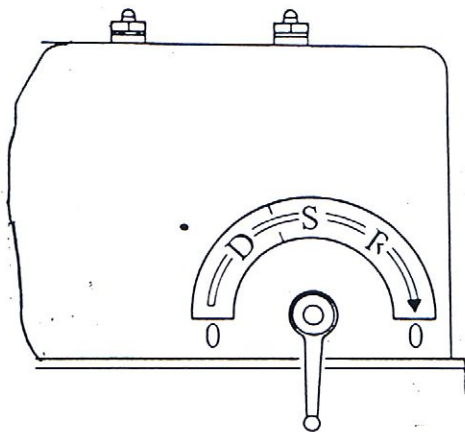
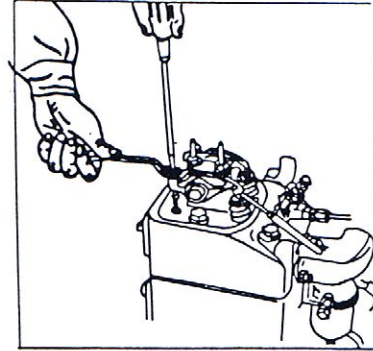

Fig. 12 Settings on automatic de-compressor device
Fig. 14 Adjusting the valve clearance
(2) Turn the de-compressor lever clockwise to 'S' position. See Fig 12.
(1) With the engine cold, ensure that the automatic de-compressor (if fitted) is in the running position. R in fig. 12.
(2) Turn the engine until the piston is at T.D.C. on the compression stroke, (refer to Chapter 3. 6. 3.). Both valves should be closed.
(3) Insert a feeler gauge between each valve stem and its rocker-arm pad, in turn, Fig. 14.
(4) Adjust, if necessary, to obtain inlet valve clearance of 0.25mm, and exhaust valve clearance of 0.30mm. The feeler gauges should slide easily in the clearance.
(5) To adjust, use a ring spanner of the correct size to release the rocker-arm lock-nut and then adjust the clearance with a screwdriver in the slot. Fig. 14.
(6) Turn the engine two full turns and re-check the clearances; when they are correct, re-tighten the lock-nuts.
(1) Slacken off the high-pressure fuel line nut at the injector and remove the pipe retaining clip.
(2) Release the high-pressure fuel line nut on the injection pump; lift the pipe slightly to free the nipple and swing the pipe carefully aside.
(3) Set the speed-control lever to its mid-position; apply the manually operated de-compressor or, on the automatic device, set the lever to 'D', Fig. 12.